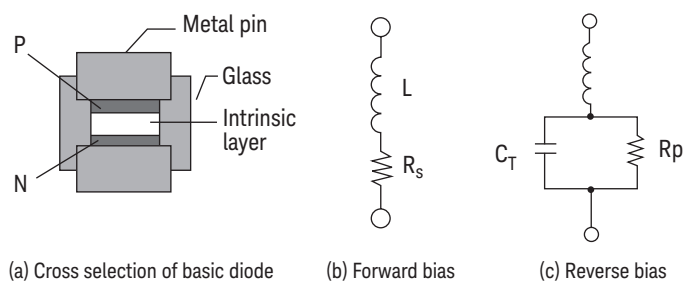

Figure 3. PIN diode equivalent circuits
PIN diodes are another mainstream switching technology. The PIN diode structure consists of an intrinsic (I) layer with very high resistivity material sandwiched between regions of highly doped positively (P) charged and negatively (N) charged material as shown in Figure 3(a).
When the PIN diode is forward biased, positive charges from the P region and negative charges from the N region are injected into the I-layer increasing its conductivity and lowering its resistance. Figure 3(b) shows the equivalent circuit with the PIN diode forward biased. L is the parasitic inductance and RS is the series resistance, approximately  $1 \Sigma$  depending on the biasing applied and the PIN diode structure.
With reverse or zero biasing, the I layer is depleted of charges and the PIN diode exhibits very high resistance ( $R_p$ ) as shown in Figure 3(c). CT is the total capacitance of the PIN diode which is the sum of the diode junction capacitance ( $C_{j0}$ ) and the parasitic capacitance ( $C_p$ ). Capacitance limits switch performance at high frequencies in the form of isolation roll-off and increased insertion loss. A low capacitance diode may help improve performance at higher frequencies.